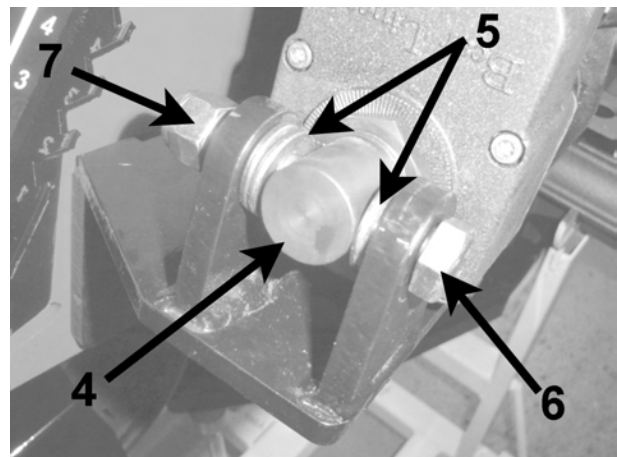

Figure 2
2. Mount the Linear 4" Stroke Actuator **4** onto mounting bracket with one bolt **6**, four washers **5** (two on each side), and one nut **7**. (**Figure 2**)